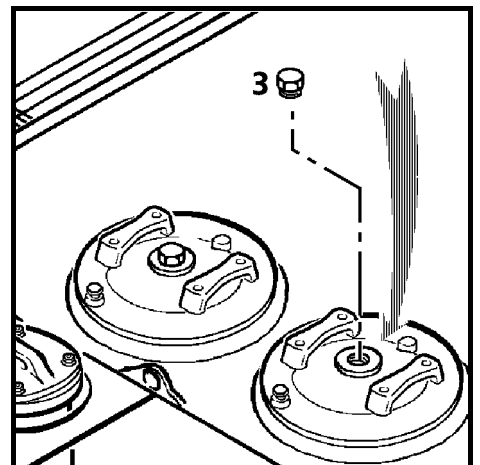

Fig. 30
- remove the plug 3 (Fig. 30) on the return filters